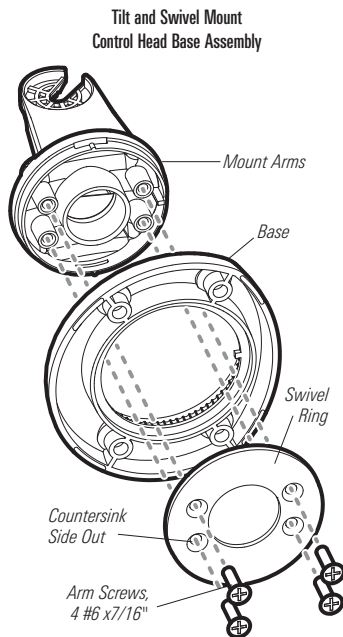

Figure 5
3. Secure the mount arms with the four #6 screws provided (Figure 5).